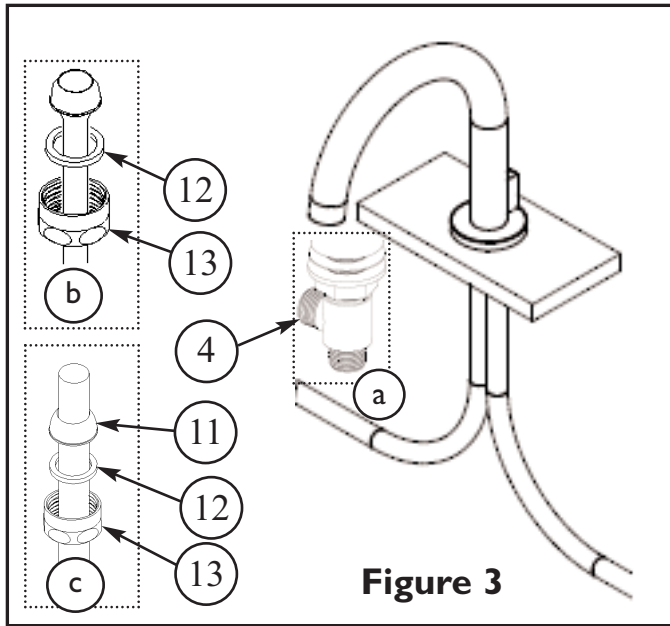
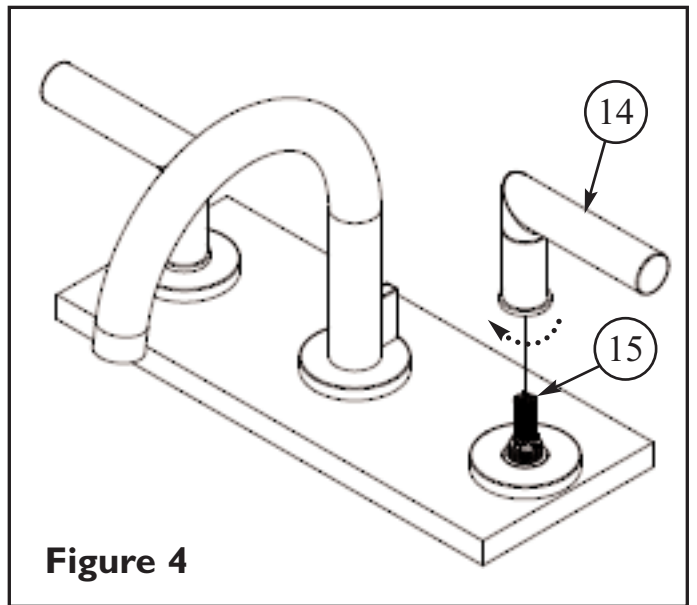

Figure 3
Figure 4
4. Connect hot/cold water supply to appropriate 1/2" NPSM valve BODY (4), utilizing one of the three following types of risers. Supply risers not included. **See Figure 3.**
- a. 1/2" IPS flexible riser: discard rubber nosecone WASHER (11), friction WASHER (12) and coupling NUT (13).
- b. 3/8" or 1/2" OD bullnose riser: utilize friction WASHER (12) and coupling NUT (13).
- c. 1/2" copper riser: utilize rubber nosecone WASHER (11), friction WASHER (12) and coupling NUT (13).
5. Secure HANDLE (14) into place by first engaging the stem of CARTRIDGE (15). Any adjustments for rotational alignment must be made to the valve BODY (4), not to the CARTRIDGE (15). Repeat on other side. **See Figure 4.**